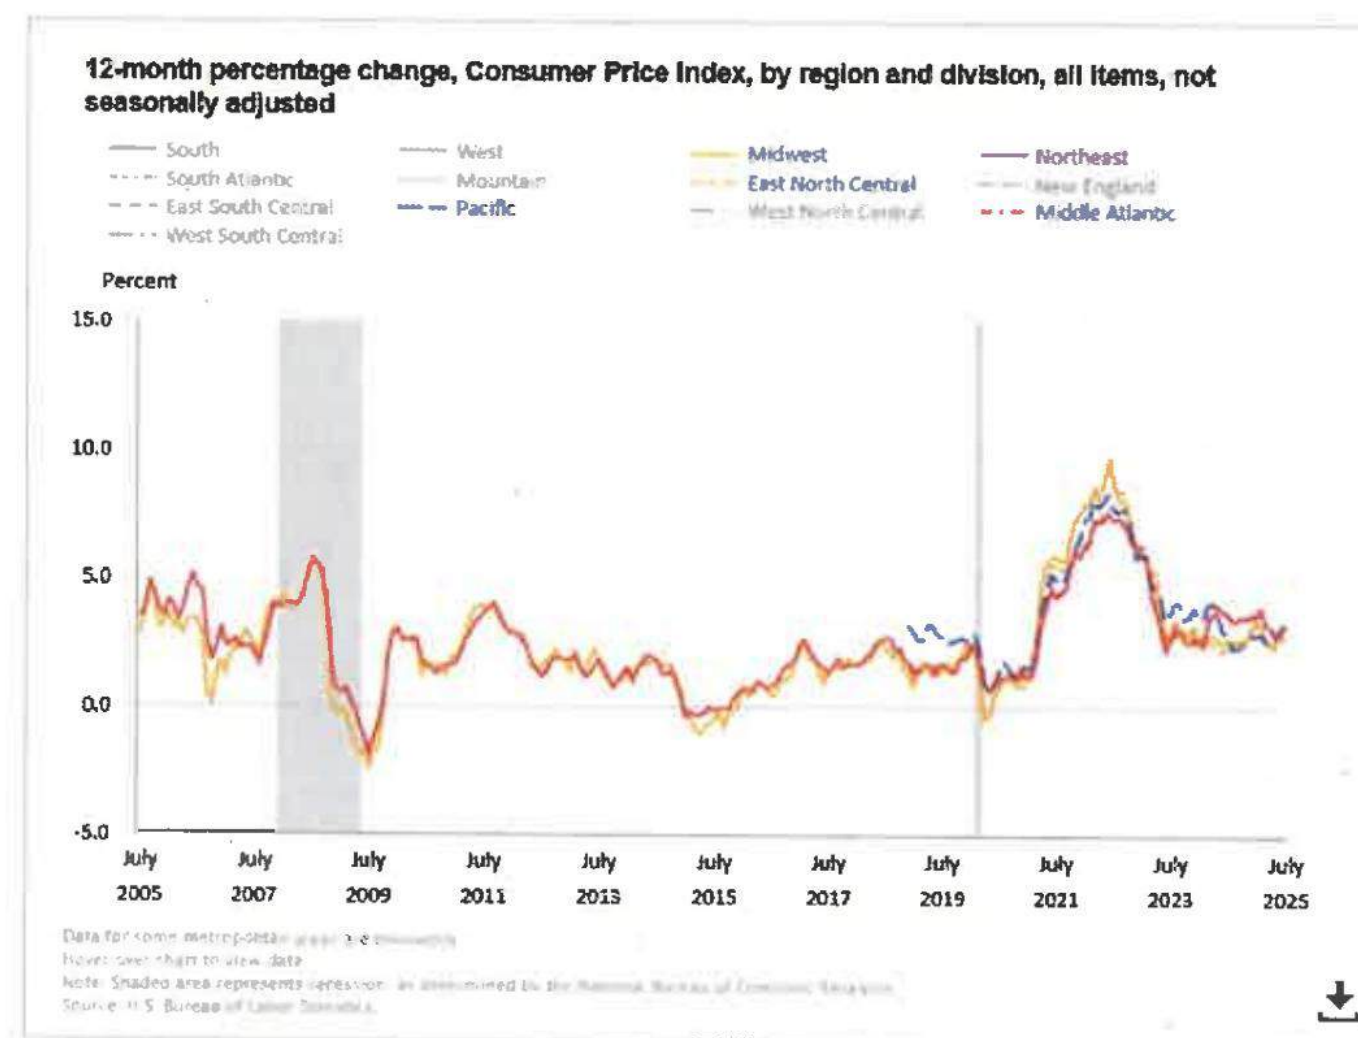

Figure 1: Image Credit <https://www.bls.gov/charts/consumer-price-index/consumer-price-index-by-region.htm>
The Federal Reserve enacts policy with the goal of keeping inflation at 2%, measured by the Consumer Price Index shown in Figure 1 above. **If inflation is significantly below the inflation target, the Federal Reserve may cut interest rates** to spur economic activity and bring inflation back to the 2% target. **When inflation exceeds target inflation, the Federal Reserve will react and adjust the interest rate higher** in an attempt to check inflation.
6. (5 Points) What fundamental mode of behavior is being described in the previous description and shown in Figure 1 above?